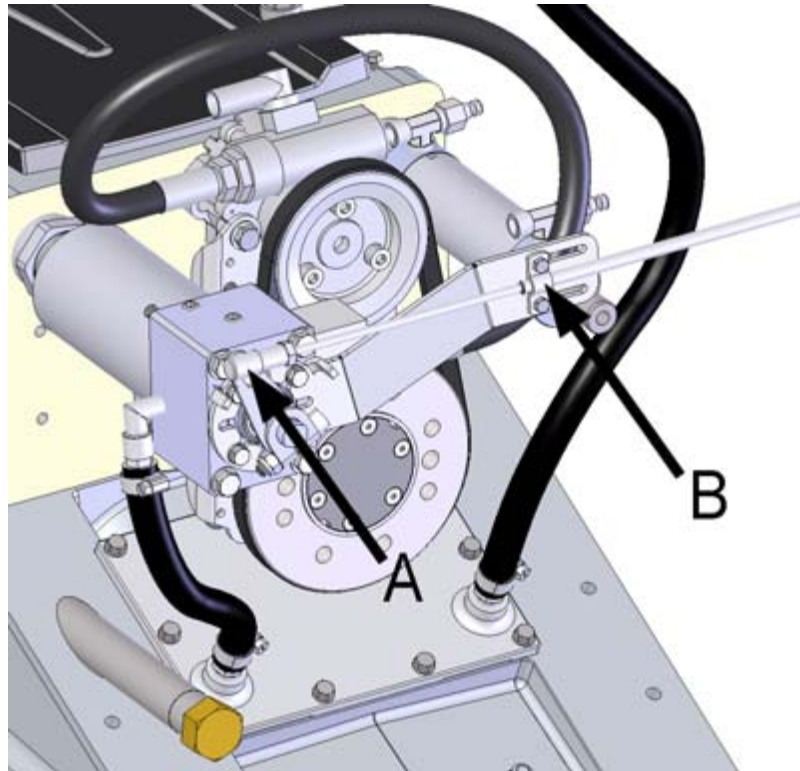

Figure 53. Removing the cable
- 1.1. Remove the cable angle joint (figure 53, point A) from the control lever.
- 1.2. Remove the saddle mounting from the cable clamp (figure 53, point B).